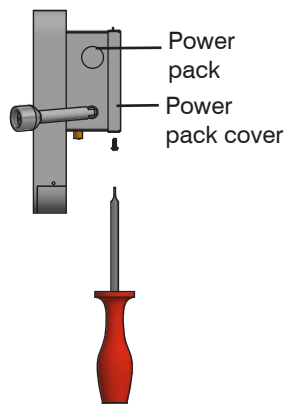

Figure 3
3. Knockout appropriate mounting holes and wire pass-through holes on power pack cover (figure 3).